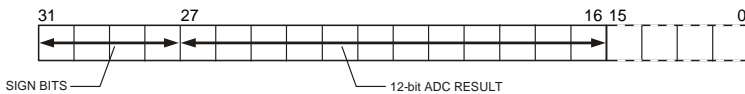

Figure 31: ADC Result Format
The top 4 bits are the sign bits and the 11-bit result is placed from bit 16 to 27 as shown in Figure 31. Again, it should be noted that in fully differential mode, the result is represented in two's complement format shifted one bit to the right, and in pseudo differential and single-ended mode, the result is represented in straight binary format.
- **ADCDAT**: ADC Data Result Register, hold the 12-bit ADC result as shown Figure 31